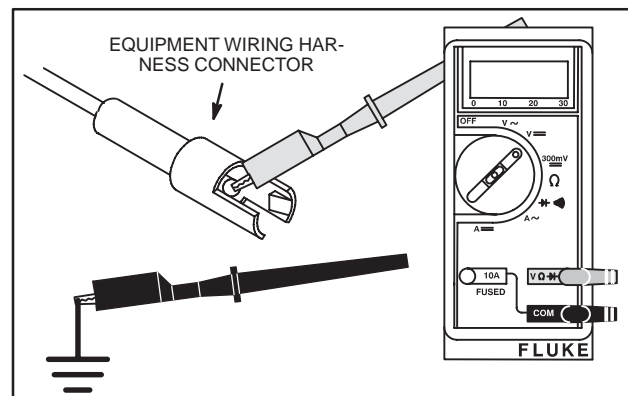

Fig. 64 – Checking Wiring
2. Insert red meter test lead into wiring harness connector and attach black test lead to a good ground, Fig. 64.